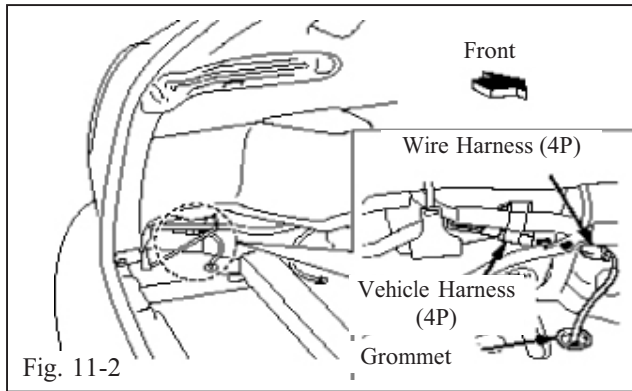

Fig. 11-2
(1) Connect the vehicle harness (4P) to the wire harness (4P). (Fig 11-2)